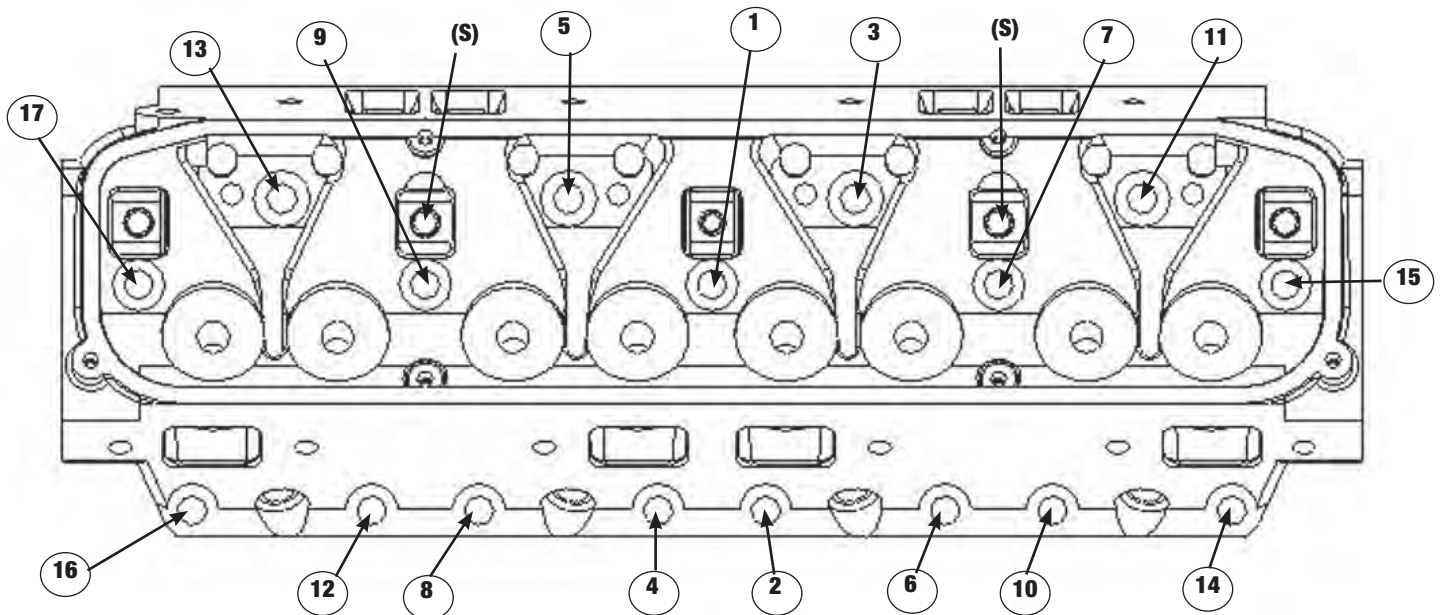

Fig. 1
Installation is the same as for original equipment cylinder heads. Consult service manual for specific procedures, if necessary. Be sure that the surface of the block and the surface of the head are thoroughly cleaned to remove any oily film before installation. Use alcohol or lacquer thinner on a lint-free rag to clean. Apply oil or suitable thread lubricant to head bolt threads and the underside of bolt heads and washers. Torque to 70 ft./lbs. in three steps (40, 55, 70) following the factory tightening sequence (**see Figure 1**). Apply a continuous 1/8" bead of automotive RTV silicone sealer to end sealing surfaces on block and along bottom of intake ports on cylinder head. Also, apply a thin bead of sealer around intake ports on cylinder head and gasket. Position intake gasket thin valley cover in place and tighten bolts down. Then, place intake manifold in position and torque manifold bolts to 25 ft. lbs. **Notes:** (1.) Rocker shaft hold-down studs, nuts and washers, for 2 places marked (S) in each head, are supplied in this kit. (2.) Double nut both studs and screw them in until they reach the bottom. Install rocker shaft, factory concave washer and hard washer supplied with this kit. Apply 30W oil to fine threads and under nuts and washers and torque nuts to 25 ft./lbs. A head bolt re-torque is recommended after initial start-up and cool-down (allow 2-3 hours for adequate cooling).